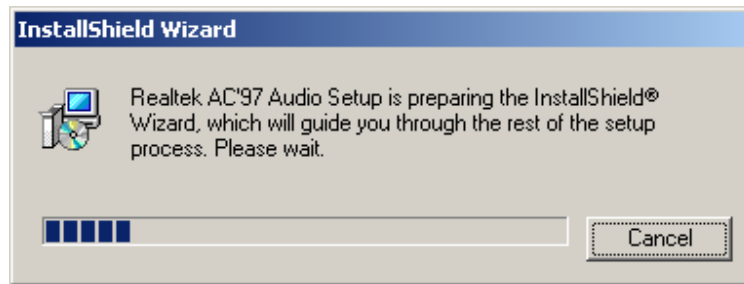

Figure 7-27: Preparing Setup Screen
Step 5: The **InstallShield Wizard** is prepared to guide the user through the rest of the process (**Figure 7-27**).